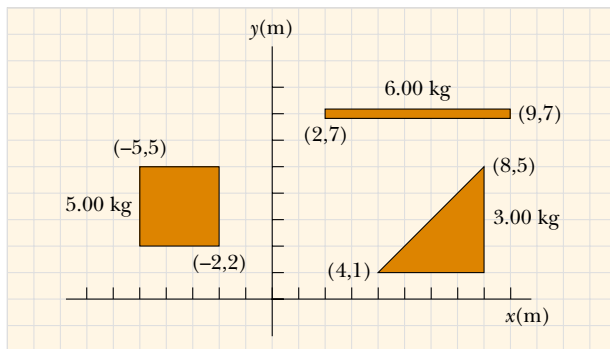

Figure P12.10
10. Figure P12.10 shows three uniform objects: a rod, a right triangle, and a square. Their masses in kilograms and their coordinates in meters are given. Determine the center of gravity for the three-object system.